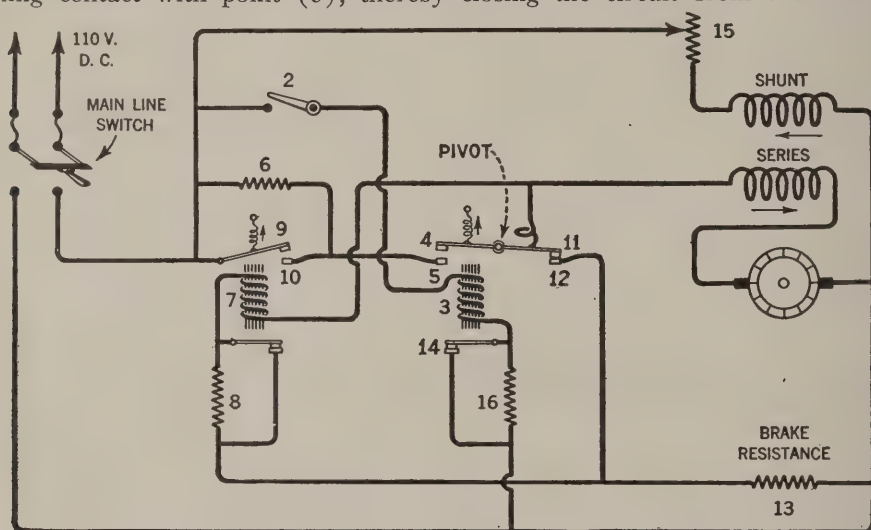

FIG. 78.—Automatic starter used with a compound-wound motor.
Answer. The circuits of an automatic starter employed with a compound-wound motor are shown in Figure 78. When the main line d-c switch and the starting switch (2) are closed, the solenoid (3) is connected in shunt to the d-c line with contacts (14) open. The flux from this solenoid attracts the lever (4), making contact with point (5), thereby closing the circuit from the d-c line